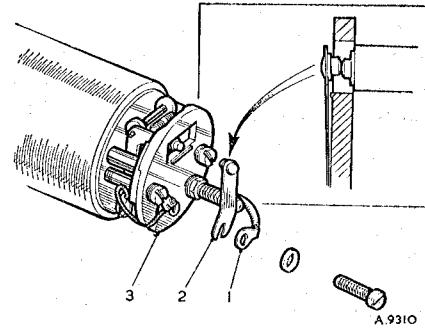

Fig. 10. Setting the correct relative position of blade and rocker contact points
20. Fit the contact blade (2) (Fig. 10) and coil lead (1) to the pedestal (3) with the 5 B.A. washer and screw. When a condenser is fitted the tag on it is placed under the coil lead tag.
21. Adjust the contact blade so that the contact points on it are a little above the contact points on the rocker when the points are closed (see Fig. 10), also that when the contact points make or break, one pair of points wipes over the centre line of the other in a symmetrical manner.